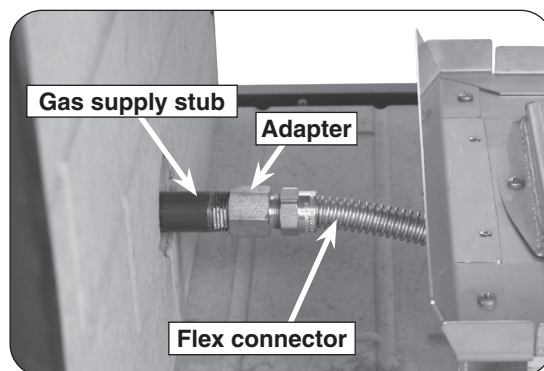

Fig. 14-1 Connect gas supply
2. Locate the gas-supply stub inside the fireplace and remove the cap, if attached (reference Fig. 14-1).
4. **Be sure gas to the fireplace is off.** Remove the adapter connected to the flex connector (pre-installed on the burner system). Attach the adapter to the gas-supply stub using a pipe compound resistant to all gasses. Tighten securely. Then attach the open end of the flex connector to the adapter. Tighten securely (See Fig. 14-1).